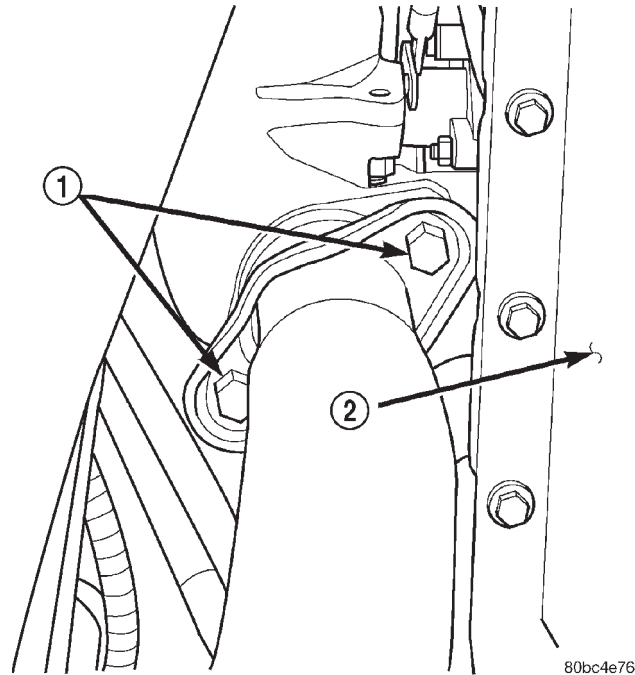

Fig. 7 Exhaust System Inlet Pipe
- (10) Remove the exhaust system inlet pipe retaining bolts from the turbocharger (Fig. 7).